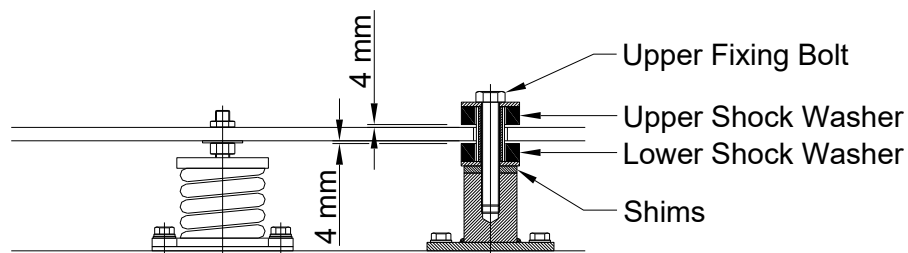

Figure 3
6. Fully tighten VSU H.D bolts and position lower shock washer on to VSU base, utilising the shims provided (10 mm maximum adjustment) to raise the washer and produce a 4 mm gap between washer and machine base. Insert supplied upper fixing through upper shock washer, distance tube and rubber sleeve. Insert upper fixing, tube and sleeve through machine base and torque to 300 NM (See Figure 3). The upper 4 mm gap is set by the length of the distance tube and therefore will be correct.